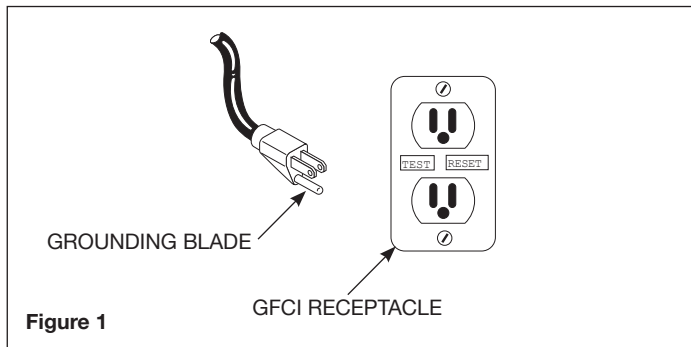

Figure 1
**Risk of electrical shock! This pump is supplied with a grounding conductor and grounding type attachment plug. A grounded receptacle in conformance with current NEC and local codes must be used (See Figure 1).**